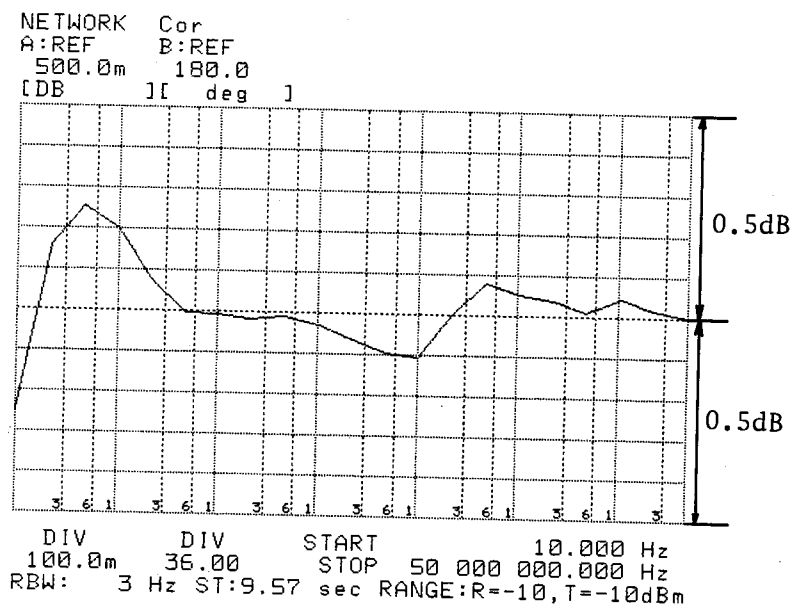

Figure 5-3. Adjustment Example
- Adjust **R18 (LF GAIN)** and **R25 (FLATNESS)** so that the T/R data displayed by the HP 4195A is within  $\pm 0.5$  dB for the data at 50 MHz, as shown in Figure 5-3.